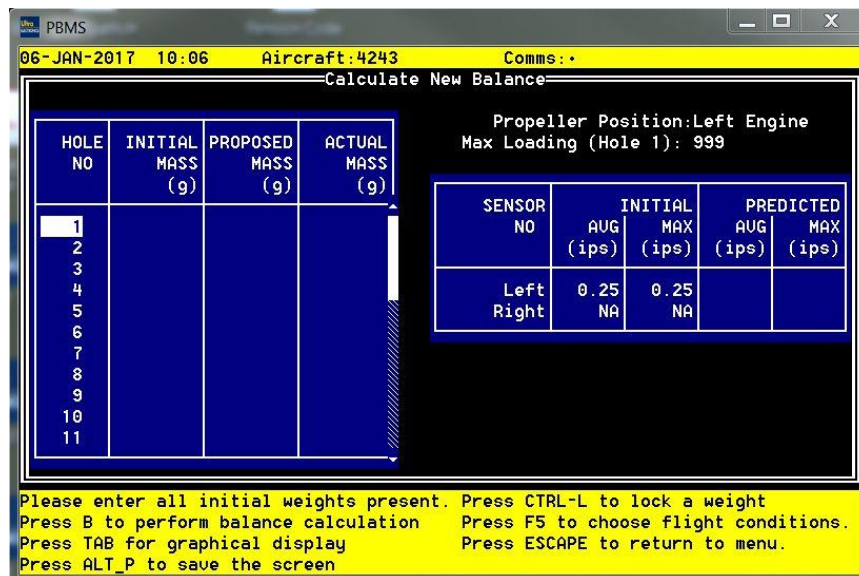

Figure 3-3 Calculate New Balance Screen
(3) The 'Calculate New Balance' screen will be shown on the PBMS Terminal (Refer to Figure 3-3). At this point, the only data shown on the screen are the vibration levels in the data being used to calculate the new balance.